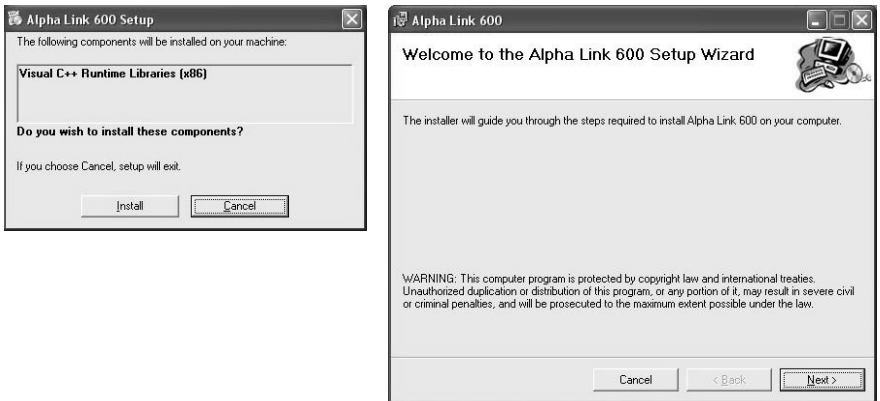

Figure 1: Preparing to install
1. Insert the Alpha Link 600 installation CD into the CDROM drive of your PC. The installation wizard should start running automatically (Figure 1).